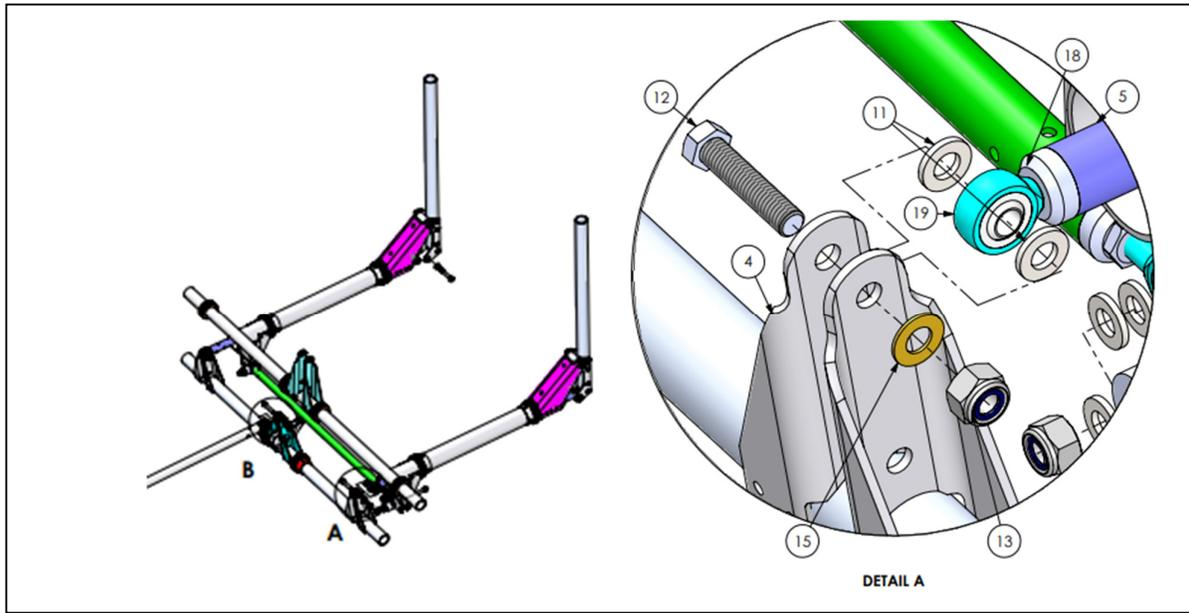

Figure 24: Eyebolt assembly, Detail A
- Step 3. If *noncompliant* eyebolts have been used, they must be replaced (with either *type 1* or *type 2*). To do this remove the AN4 locknut (13) and bolt (12), as seen in Figure 24. The eyebolt can now be uninstalled from the pushrod. Once uninstalled, install a new one of either *type 1* or *type 2*.
- Step 4. Once the eyebolt has been installed onto the pushrod, reconnect the eyebolt assembly. Refer to Figure 24 for the way the assembly fits together.